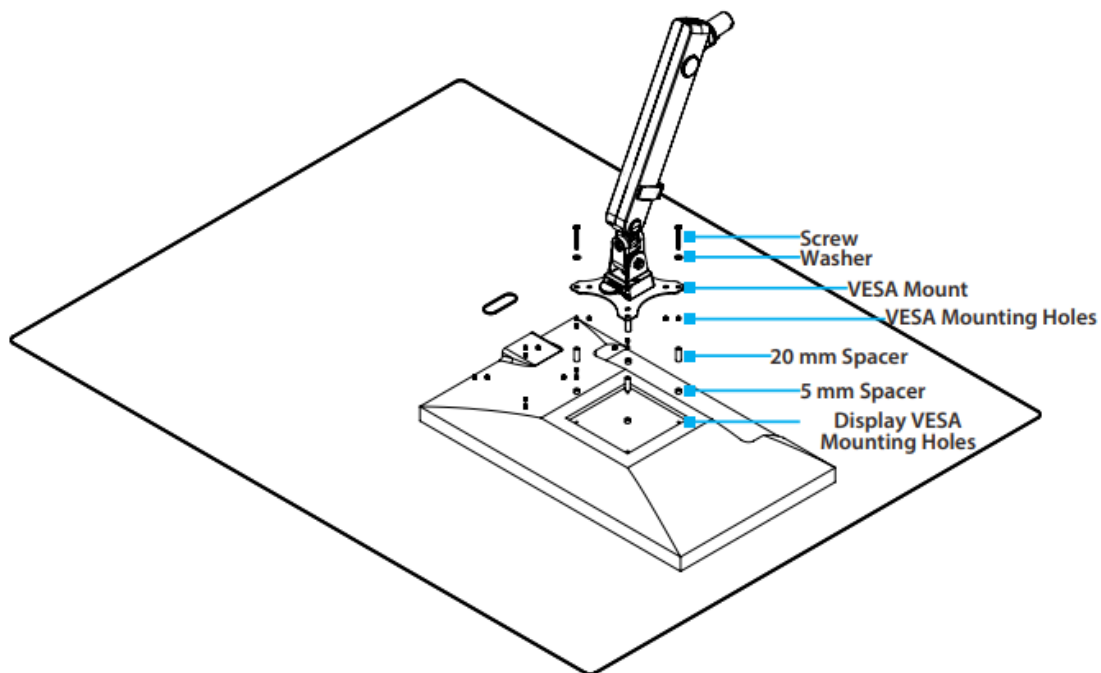

Figure 1
5. (Optional) Place the necessary number of **Spacers** over the four **Display VESA Mounting Holes** on the rear of the (Figure 1)